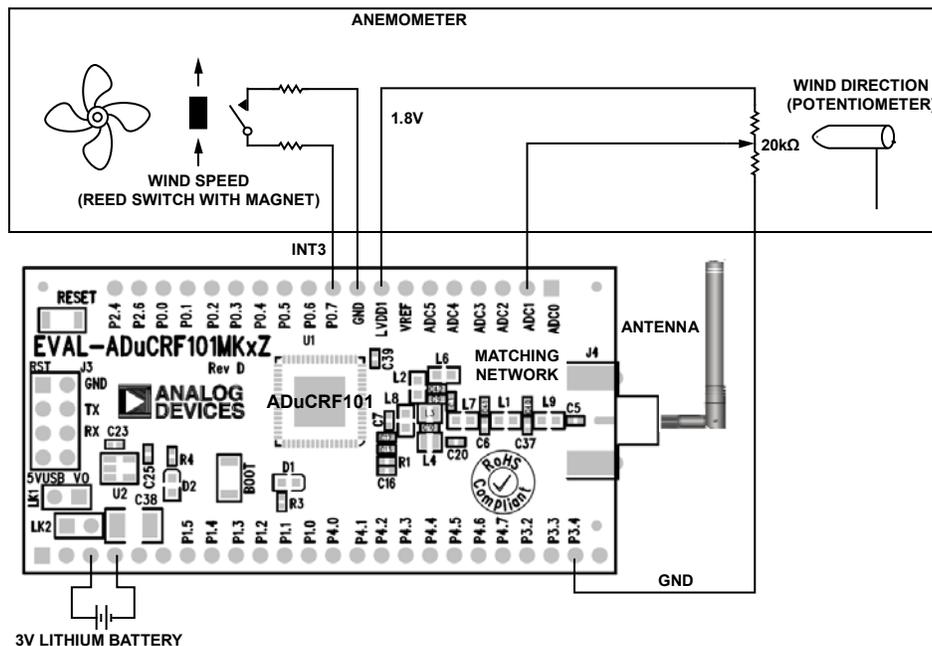

Figure 1. Wireless Wind Speed and Direction Data Acquisition System Functional Block Diagram (Simplified Diagram: All Connections and Decoupling Not Shown)
The circuit in Figure 1 is a battery powered precision analog microcontroller circuit with an integrated RF ISM-band transceiver used to transmit wind speed and wind direction from a passive anemometer. In the application shown, the on-chip 12-bit analog-to-digital converter (ADC) and the wake-up timers are used to acquire the wind direction and speed, respectively. The low power hibernate mode is used to conserve power, which is important in wireless remote sensing applications. When in hibernation mode, the ADuCRF101 nominally consumes 1.9 μ A of supply current, resulting in long battery life. A single CR2032 lithium ion battery can last 1 year to 2 years when operated in this mode.
In the application shown in Figure 1, the 12-bit ADC and the wake-up timers are used to acquire the wind direction and speed, respectively. To conserve power, the low power hibernate mode is used. When in hibernate mode, the ADuCRF101 nominally consumes 1.9 μ A of supply current, resulting in long battery life. The functionality of the ADuCRF101 and its small 9 mm \times 9 mm package size makes it a very easy-to-use and cost-effective solution in this and other wireless data acquisition applications.
The circuit in Figure 1 contains an EV-ADuCRF101MK3Z evaluation board which includes the ADuCRF101, a fully integrated wireless data acquisition solution. The function of the ADuCRF101 is to collect wind speed and direction information from an anemometer, and to transmit this information wirelessly to another ADuCRF101 that is in receive mode.
The EV-ADuCRF101MK3Z has been optimized for use in the 431 MHz to 464 MHz ISM band. This evaluation board allows easy access to the ADuCRF101 via through-holes on the edge of the board. More information on the EV-ADuCRF101MK3Z is available in the UG-231 User Guide. In this application, the evaluation board is interfaced to an anemometer. The anemometer can be connected via cables or through an adapter board (see Figure 1). A 3 V lithium CR2032 battery is used to power the evaluation board.
1. Connect the anemometer to the EV-ADuCRF101MK3Z evaluation board. Make the connections in accordance with Figure 1. It can be connected directly using cables to the edge vias on the evaluation board or through a mother board on which the evaluation board is mounted.